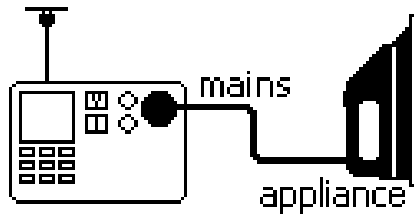
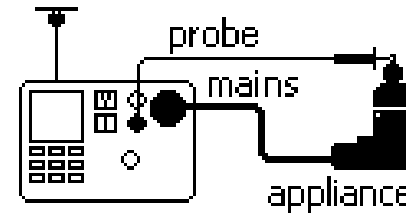

Figure 5. Insulation Test Connections Class I
Figure 6. Insulation Test Connections Class II
- Connect the appliance and the test probe as indicated on the display, see fig. 5 and fig. 6.